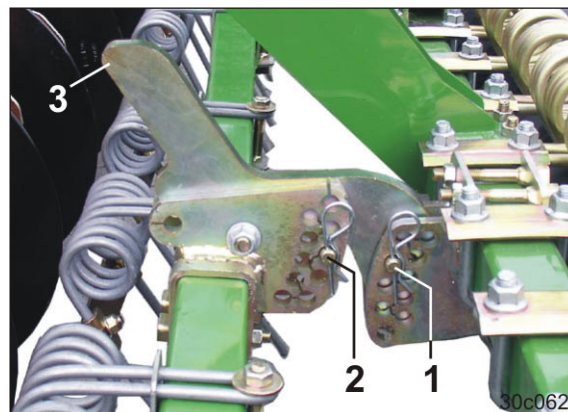

Fig. 145
3. Hold the harrow tines beam by the carrier handle (Fig. 145/3).
4. Set the working depth of the harrow tines by positioning the carrying arm with the bolt (Fig. 145/1)